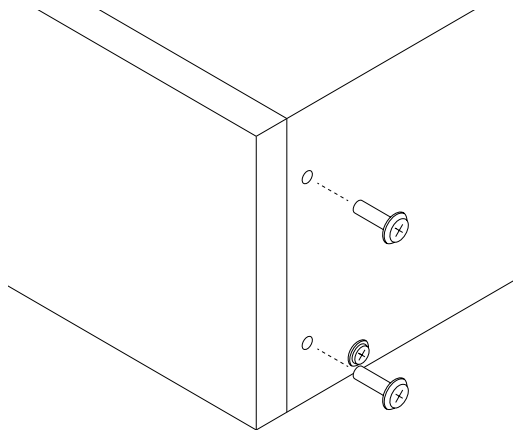

Fig 6-1
- (1) Unfasten 4 screws on the right and left sides of the set (Fig. 6-1).